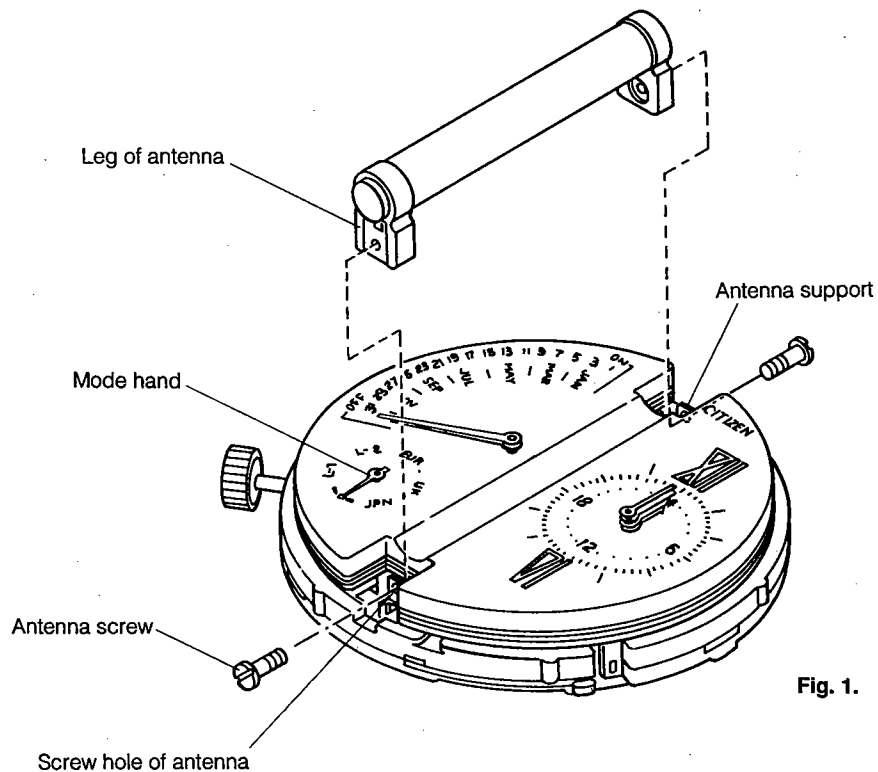

Fig. 1.
2. Install the legs of the antenna as shown in Fig. 1.
Secure the two antenna supports at in the 12 o'clock and 6 o'clock directions shown in Fig. 1 and the antenna with the antenna screws.